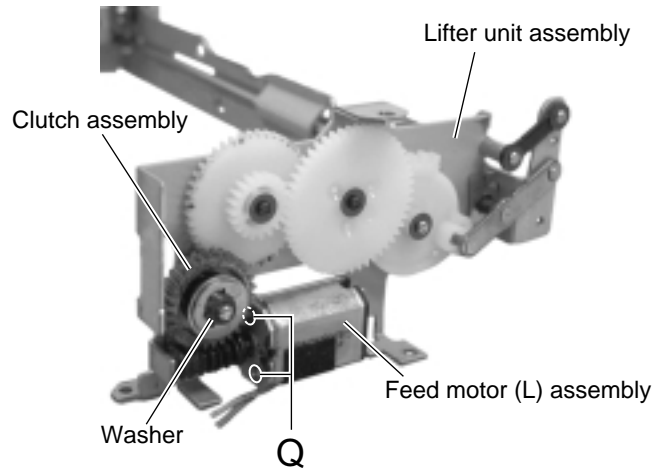

Fig.14
**■ Removing the feed motor (L) (See Fig.14)**